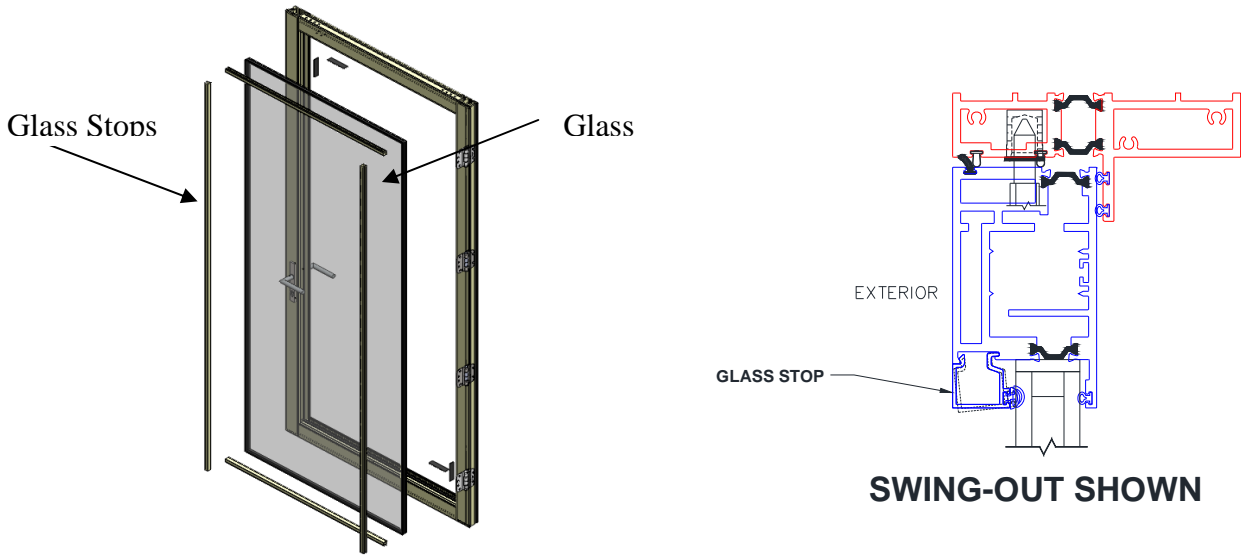

Figure 11: Panel Glazing Illustration
- Install glass to vent then install glass stops (see Fig. 11).
- Install the door panels to outer frame (see Fig. 11).